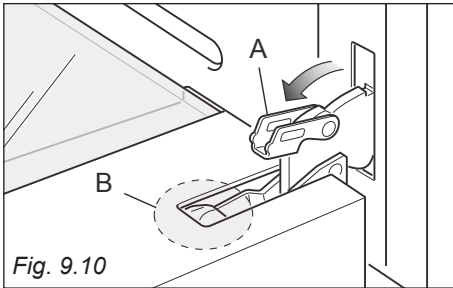

Fig. 9.10
- Open the lever "A" completely on the left and right hinges (fig. 9.10).
- Gently close the door until left and right hinge levers "A" are hooked to part "B" of the door (figs. 9.10, 9.11).